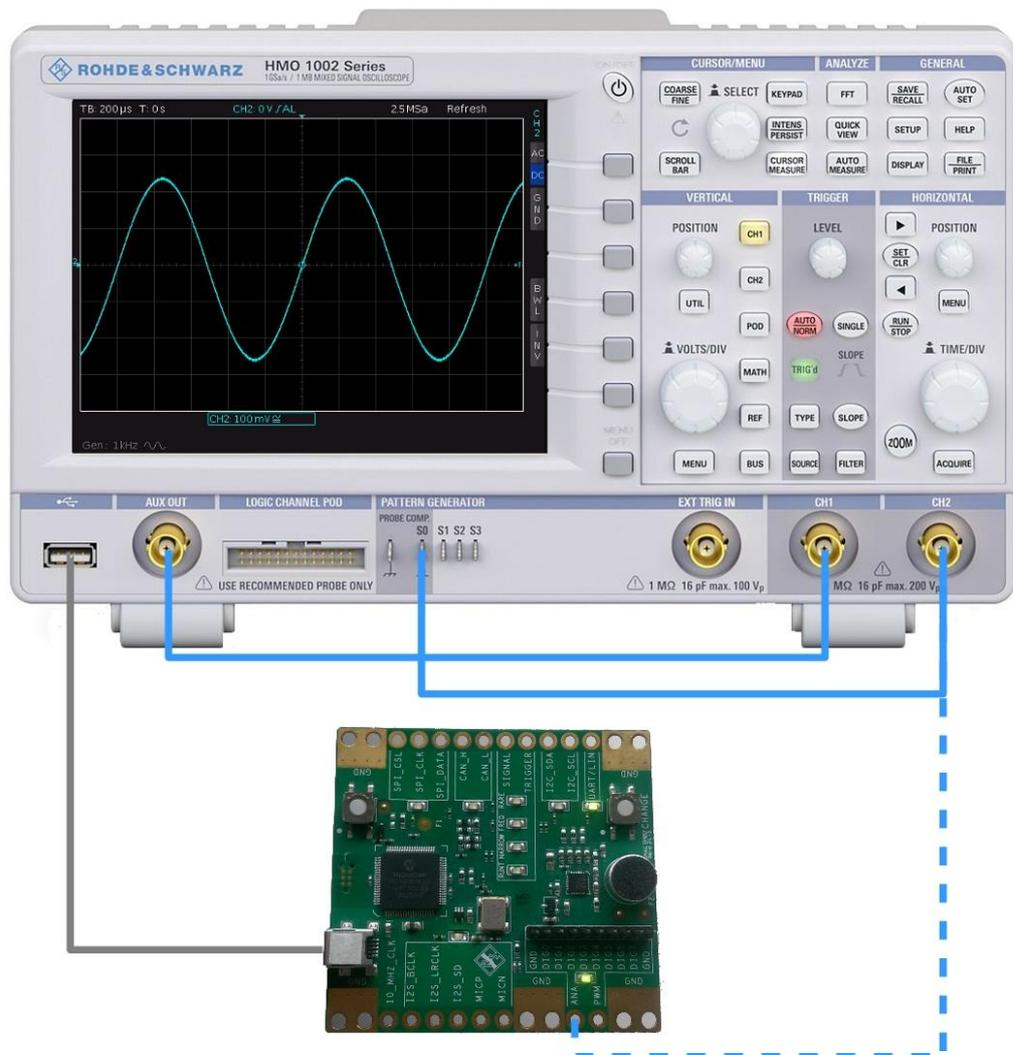

Fig. 16: Test setup for manual measurements.
The setup in Fig. 16 is provided as a general overview and will be worked through step-by-step in the exercise.
► As shown in Fig. 16, connect channel 2 to the output *S0*. Always remember to connect the probe ground wire.
► Connect the training board from Appendix 50A.1 to the USB port as shown in Fig. 16.